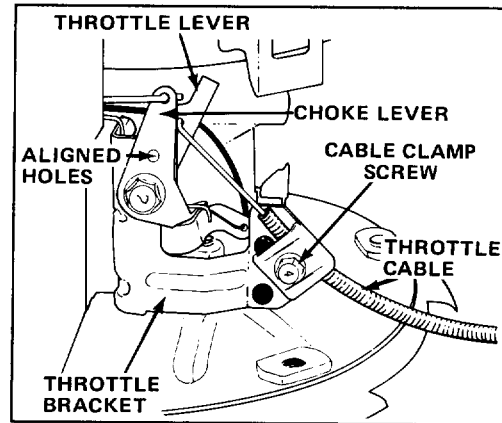

Figure 16
3. Loosen cable clamp screw until throttle cable slides (Fig. 16).
4. Check to see if holes in throttle lever and choke lever are aligned (Fig. 16). If not, follow adjustment procedure in step 5.
5. **ADJUSTMENT**—A small diameter pin may be inserted into aligned holes to hold adjustment. Push throttle cable until throttle lever contacts choke lever (Fig. 16). Tighten cable clamp screw